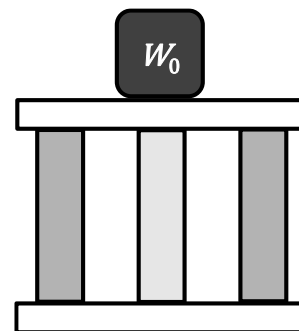

Fig. 2
- (1) At temperature T_0 , an object of weight W_0 is placed on the center of the upper rigid plate, as shown in Fig. 2. Find the strain in the columns. Also, find the stress acting on each column.
- (2) After the object of weight W_0 is removed from the state in the question (1), the temperature is increased by ΔT from T_0 . Find the strain in the columns. Also, find the stress acting on each column.
- (3) The object of weight W_0 is placed on the center of the upper rigid plate as in the question (1), and the temperature is increased by ΔT from T_0 . Find the stress acting on each column.